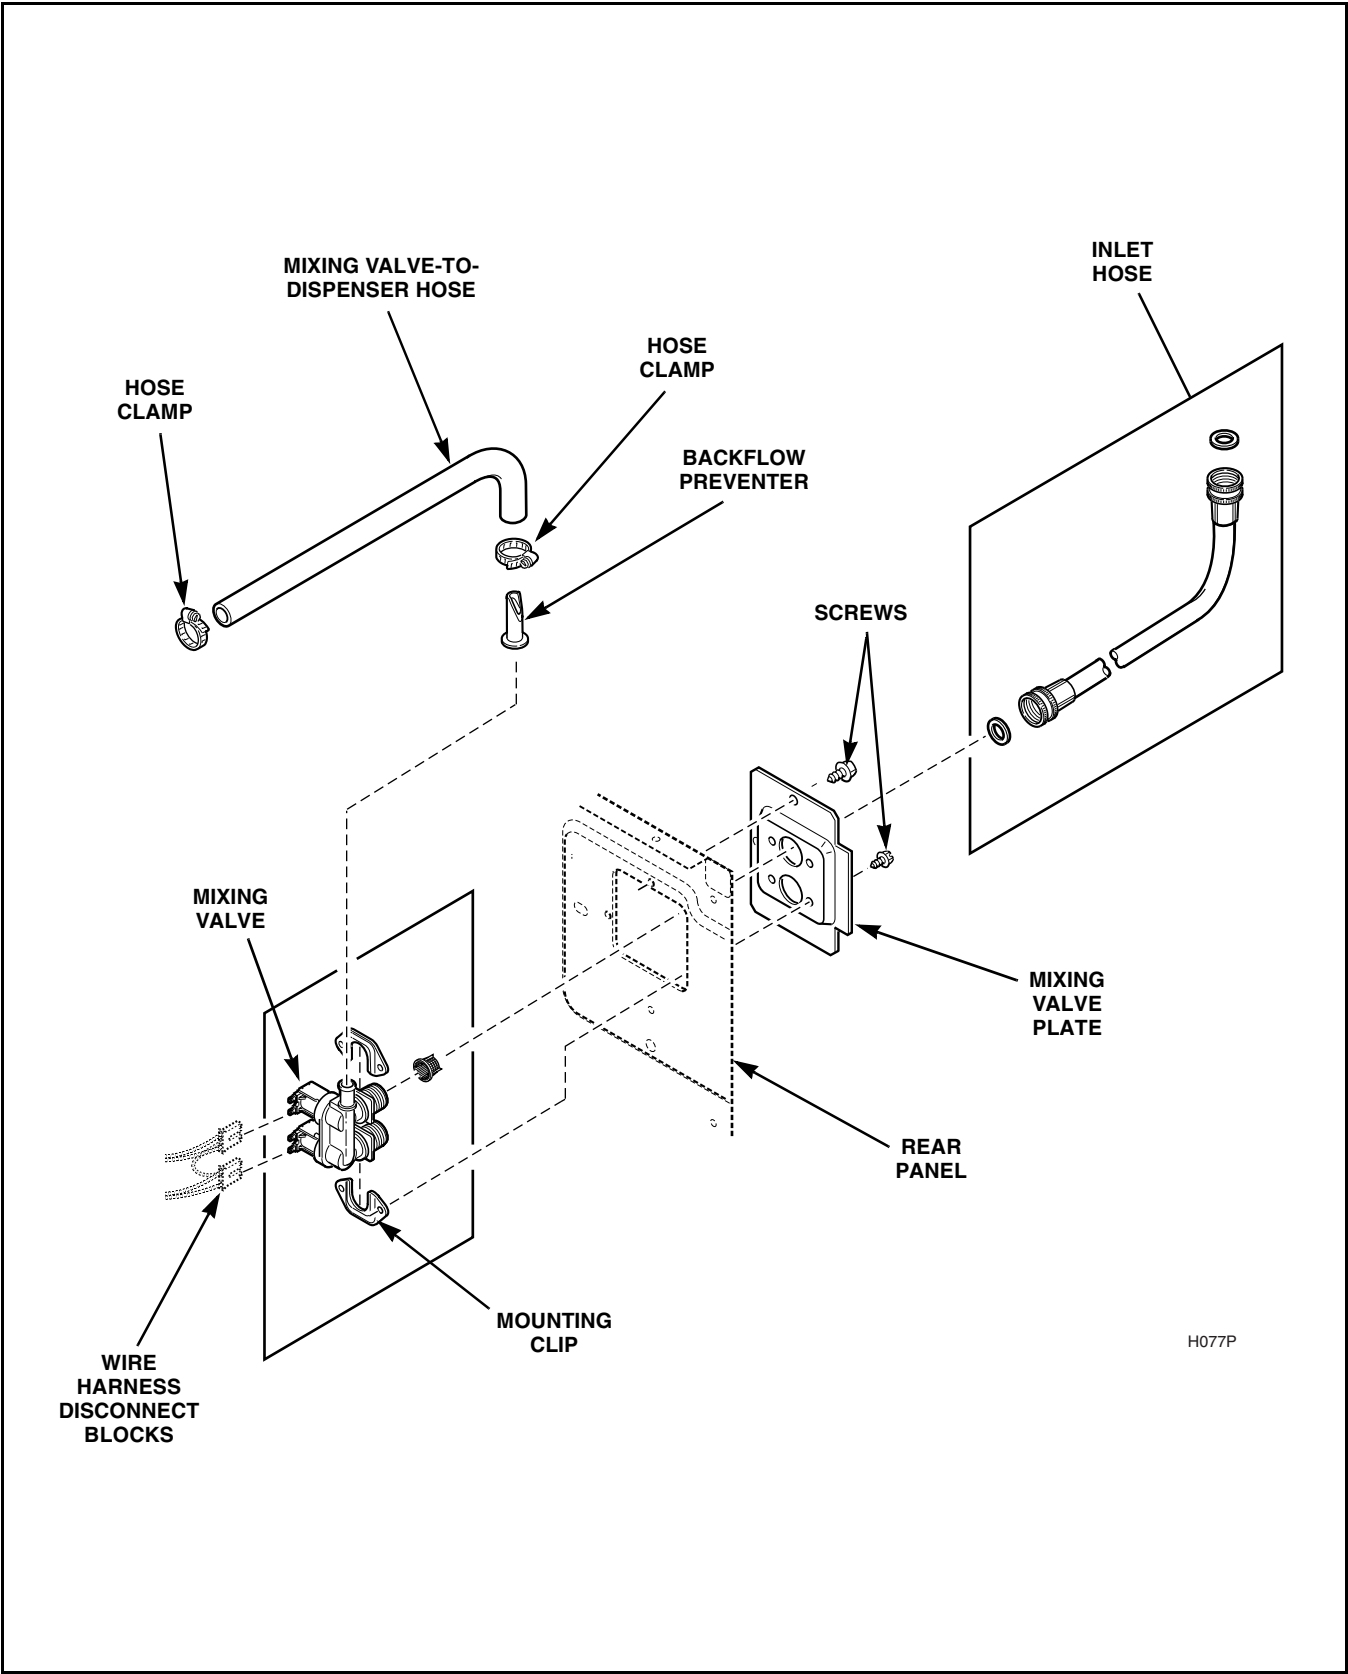

Figure 15
- c. Mixing valve is located on upper back right corner of rear panel. Refer to *Figure 15*.
- e. Loosen hose clamp and remove mixing valve-to-dispenser hose at the mixing valve. Refer to *Figure 15*.
- f. Remove wire harness disconnect blocks from mixing valve solenoid terminals. Refer to *Figure 15*.
- g. Go to rear of washer and remove screw holding mixing valve and plate to rear panel, then remove valve and plate out through opening in rear panel. Refer to *Figure 15*.
- h. Remove screws holding valve to mixing valve plate. Refer to *Figure 15*.